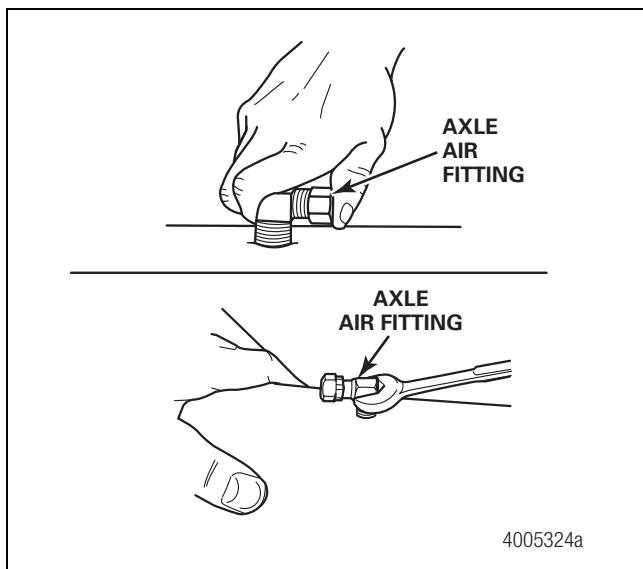
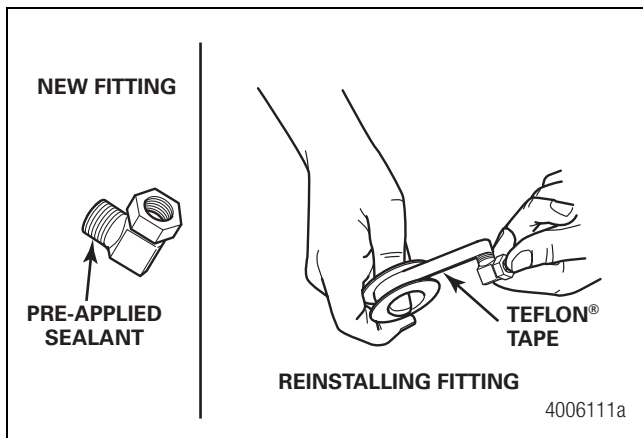

Figure 2.4
Figure 2.5
- Hand-tighten the axle air fitting into the tapped hole. Then use a 1/2-inch wrench to tighten the fitting 2-1/2 additional turns to obtain an air tight seal. Continue to tighten until the fitting faces TOWARD the side of the trailer where you'll install the system control box. Figure 2.4. It is not necessary to apply a sealer when the axle air fitting is first installed if current production fittings have sealant pre-applied to the threads. If the part is removed, however, apply a sealer such as Teflon® tape to the threads prior to reinstalling. Figure 2.5.